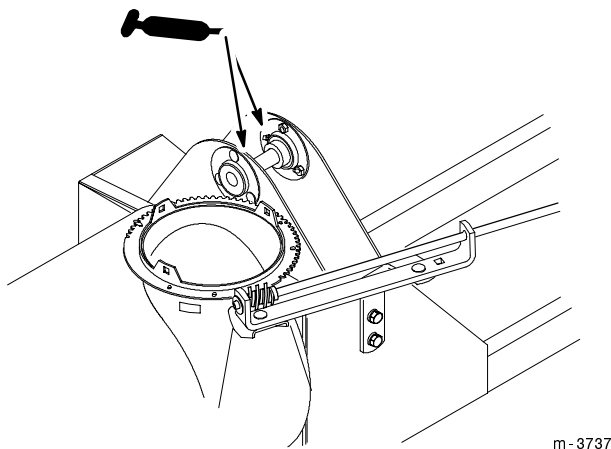
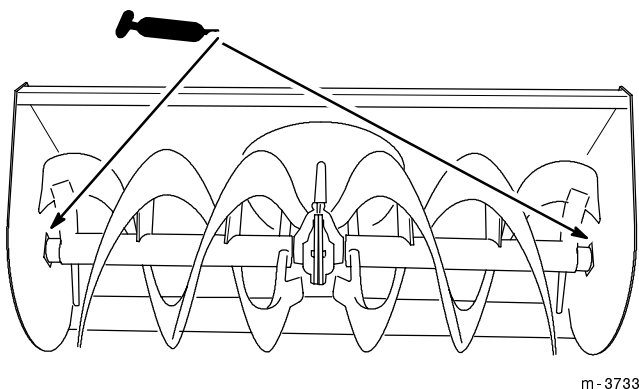

Figure 34
Figure 35
1. Lubricate the jack shaft bearings (Fig. 34) and auger bearings (Fig. 35).